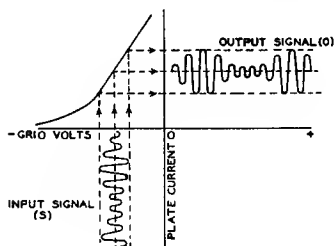

Fig. 4
As a **Class A voltage amplifier**, a radio tube is used to reproduce grid voltage variations across an impedance or a resistance in the plate circuit. These variations are essentially of the same form as the input signal voltage impressed on the grid, but of increased amplitude. This is accomplished by operating the tube at a suitable grid bias so that the applied grid-input voltage produces plate-current variations proportional to the signal swings. Since the voltage variation obtained in the plate circuit is much larger than that required to swing the grid, amplification of the signal is obtained. Fig. 4 gives a graphical illustration of this method of amplification and shows, by means of the grid-voltage vs. plate-current characteristics, the effect of an input signal (S) applied to the grid of a tube. O is the resulting amplified plate-current variation.